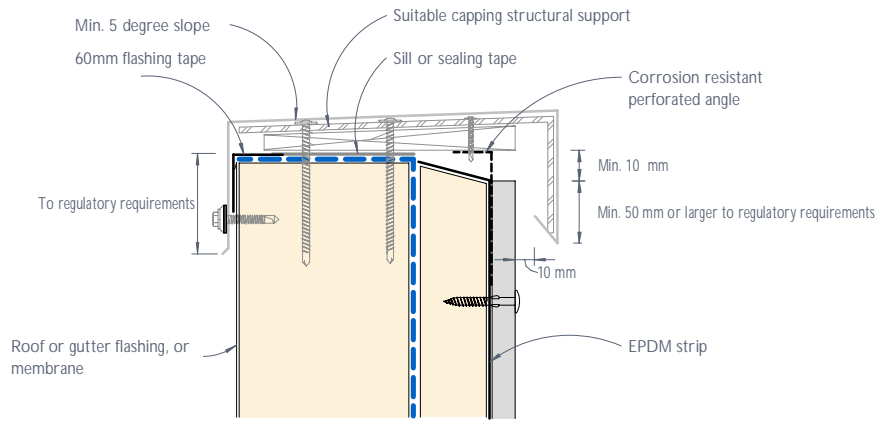

Figure 34: CEDRAL CLICK typical capping detail
- 3) Capping shall be designed and engineered accordingly to provide adequate allowance for ventilation as shown in Figures 34 & 35.